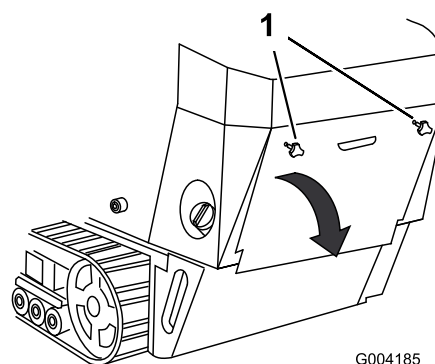

Figure 29
1. Unscrew the 2 hand knobs securing the rear-access cover to the machine (Figure 29).
2. Tilt the rear-access cover down and remove to access the internal components (Figure 29).